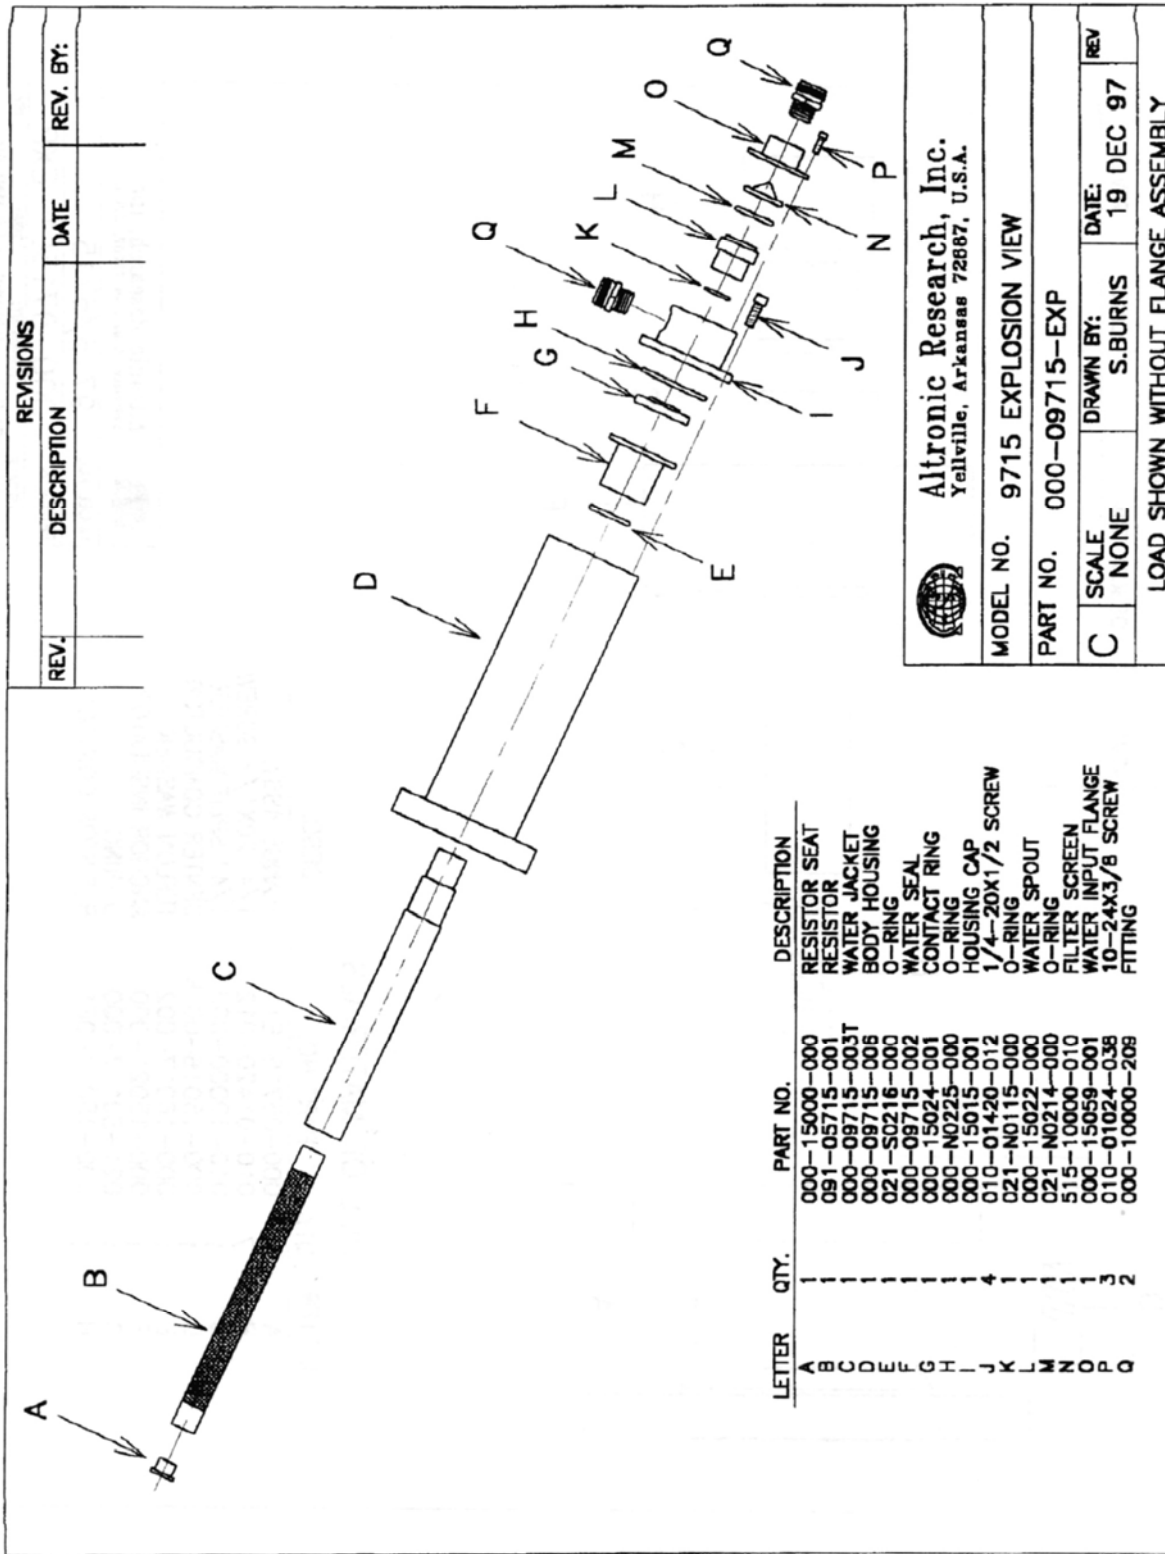
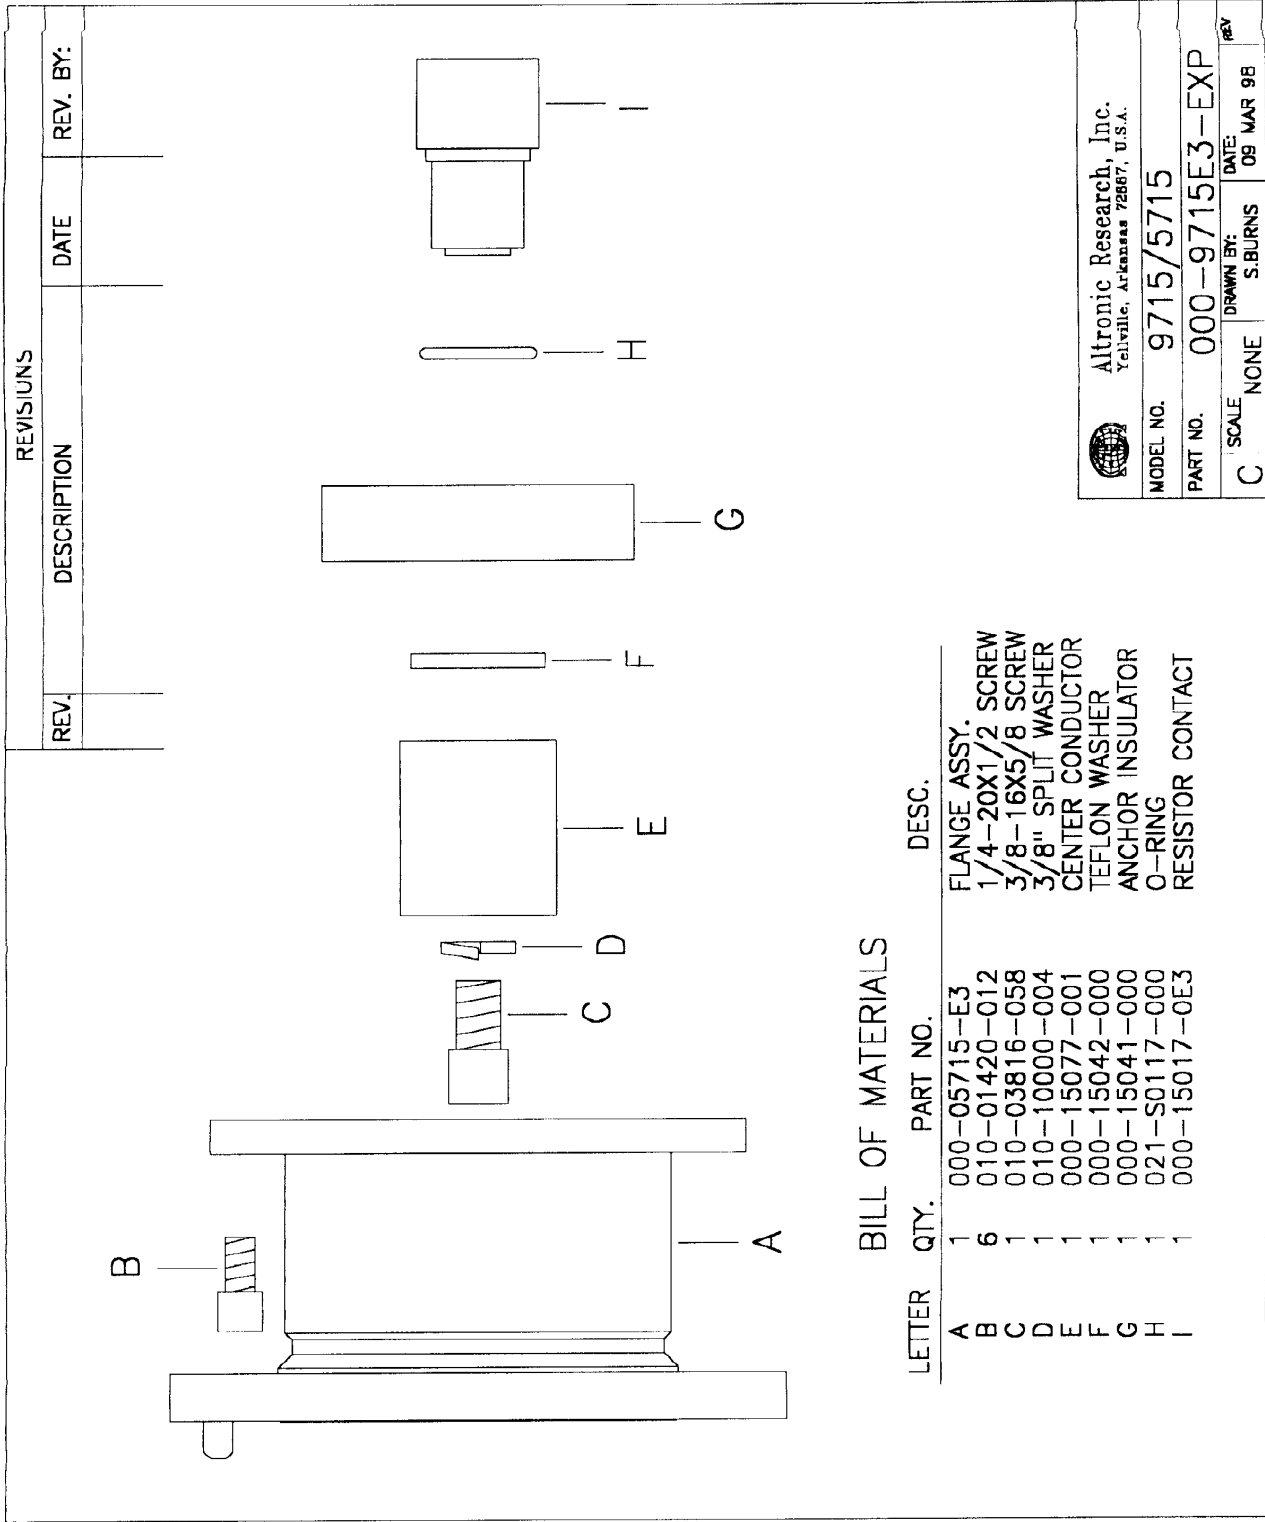

Fig. 14
Fig. 15
4. **Resistor Replacement** - (Refer to Fig. 14) To replace the resistor element, remove the three 10-24x3/8" cap screws (item P). Remove water input assembly (items N, O, and Q). Inspect filter screen for damage, replace if eroded or torn. Remove four 1/4-20x1/2 cap screws (item J). Remove housing cap assembly (items G, H, I, Q, K, L and M). Inspect all O-rings for distortion or damage. Replace if pinched, cut, burned or no longer round in cross section. Inspect ring contact (item G) for signs of arcing or loss of silver in the area of contact with the resistor contact band. Replace if damage is noted. If
5. **Removal of RF Input** - (Refer to Fig. 15) To remove the RF input line adaptor flange, remove six 1/4-20x1/2 socket head screws that secures the line adaptor flange (item A) to the load body housing (item D, Fig. 14). The RF input assembly consisting of the center conductor, anchor insulator and front resistor contact (items C, D, E, F, G, H and I) will normally remain in the load body. Grasp the center conductor (item E) by hand and attempt to pull the input assembly out of the load body using slight side to side motion while pulling. If strong resistance is encountered, it may be necessary to chill the load to allow the anchor insulator to shrink away from the load housing. This can be done by placing the load in a freezer, or packing the load in ice for 20 to 30 minutes. Once the anchor insulator has shrunk away from the load housing, the RF input assembly should be easily removed. At this point of disassembly, all components of the load can be inspected or replaced as needed. Reassembly should be done in the reverse order of sequence.